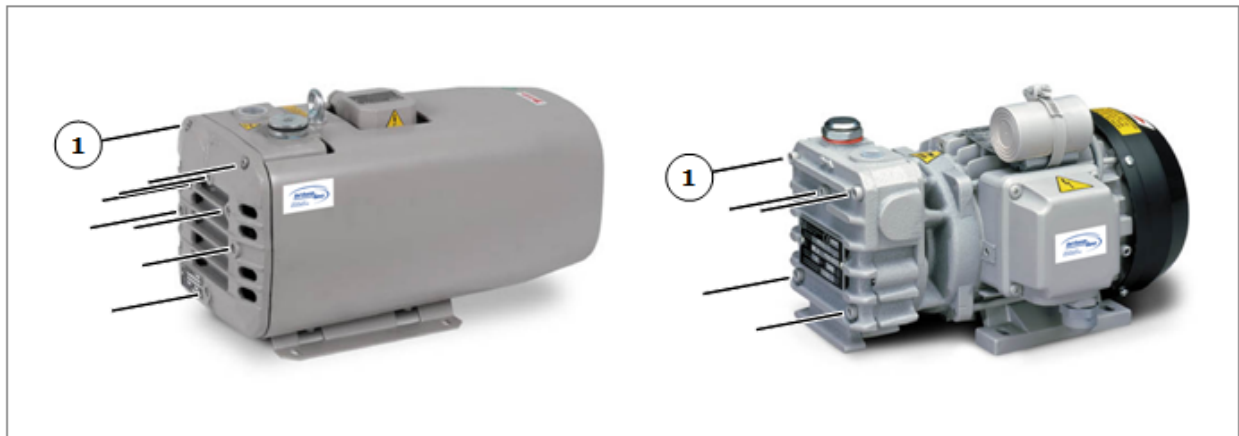

Fig. 8 Removing exhaust grille / cover
- Outlet grilles / Unscrew the housing cover, Fig. 8 item 1,
In cartridge could have different sealing. The housing cover (Fig. 8 , item 1) should be screwed with equal force until achieving right position.
Fig. 8 Removing exhaust grille / cover.....	20